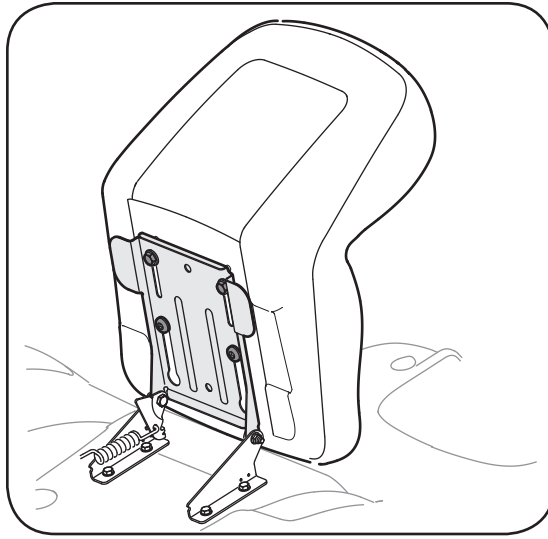
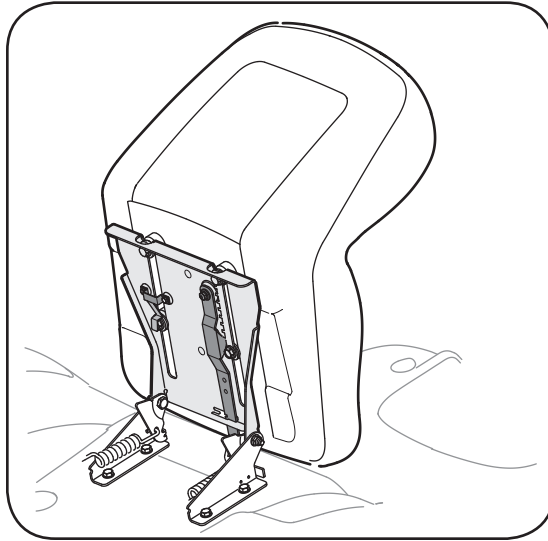
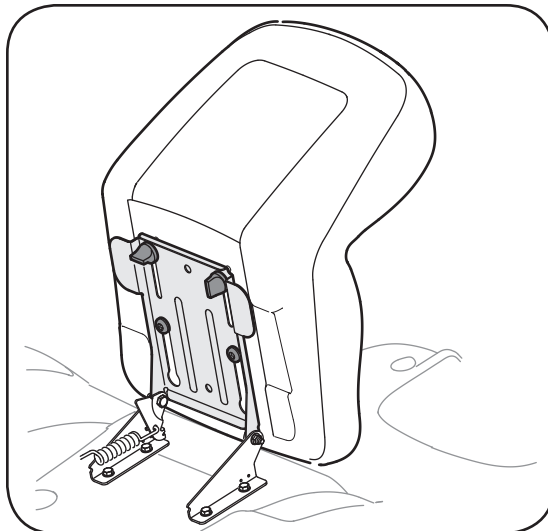

Figure 3-4
Figure 3-5
Figure 3-6
If the seat for your tractor did not come attached, refer to Figure 3-4, Figure 3-5, and Figure 3-6 to identify your tractor's seat style and follow the applicable instructions below to attach it.
1. Position the shoulder screws (found on the base of the seat) inside the slot openings in the seat pivot bracket. Figure 3-4.
3. Select desired position for the seat, and secure with the two hex screws removed earlier. See Figure 3-4. Do not overtighten.
NOTE: If your seat was shipped mounted backwards on the seat pivot bracket, pull out the tab found on the seat stop and hold it open while sliding the seat off the seat pivot bracket. See Figure 3-5.
2. Slide seat in until front seat spacer engages the seat stop. See Figure 3-5.
1. Position the shoulder screws (found on the base of the seat) inside the slot openings in the seat pivot bracket. Figure 3-6.
3. Select desired position for the seat, and secure with the two knobs removed earlier. See Figure 3-6.